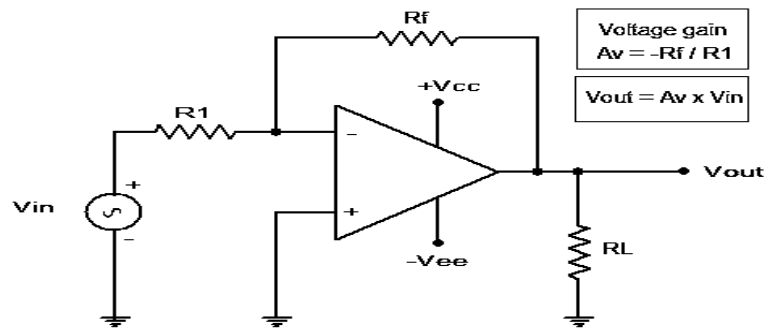

Figure 3.1 Inverting Amplifier
4. Connect R_1 and R_f as shown in Figure 3.1